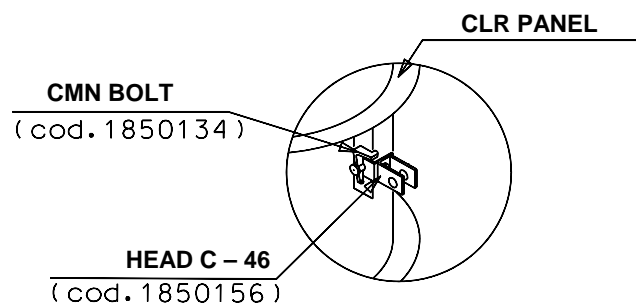

Figure 8
- ◆ Proceed to assemble the HEADS C-46 in the CLR panels before lifting the molds. (See figure 8)